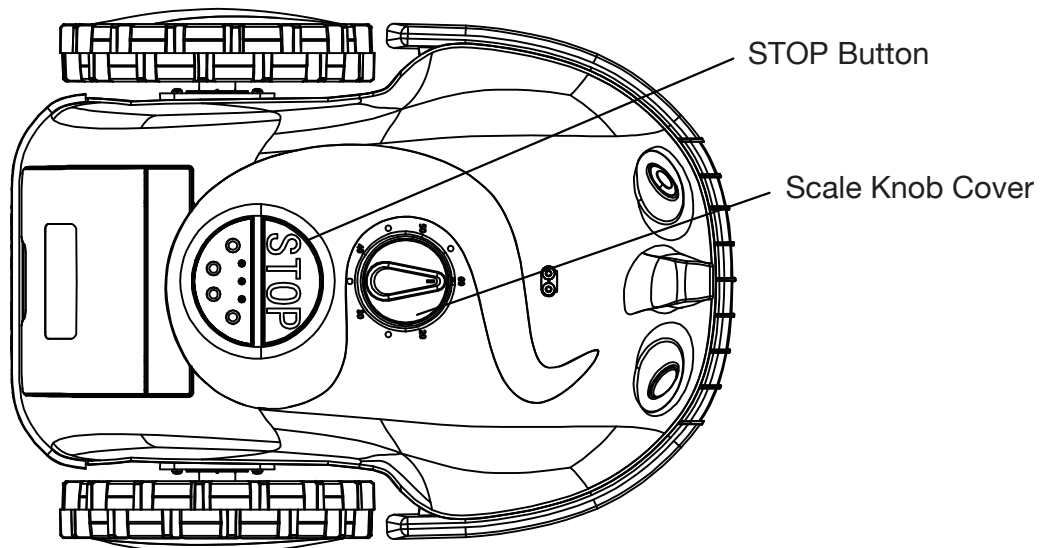

Fig 4-1
- Counterclockwise to decrease the cutting height (Fig 4-1)